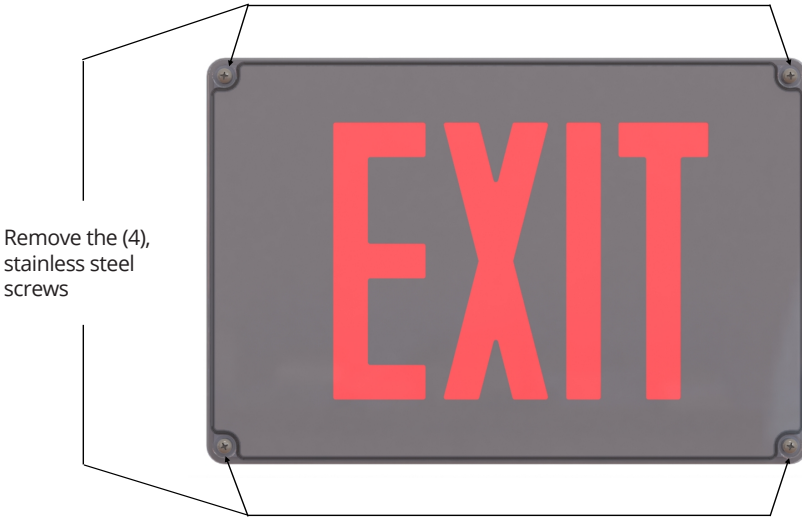

FIGURE 1: Opening the Sign
2. Install the gasket (B) and adapter plate onto the junction box.
3. Install gasket (A) onto the canopy. Then install the canopy to the adapter plate with the supplied screws.
4. Remove panels, refer to Figures 1 & 2. Then detach the reflector from the sign to allow access to the top housing plug.
3. Install the gasket (A) onto the canopy. Then install canopy to the adapter plate with the supplied screws.
4. Remove panels, refer to Figures 1 & 2. Then detach the reflector from the sign to allow access to the side housing plug.
4. Remove the front panel, refer to Figures 1 & 2.